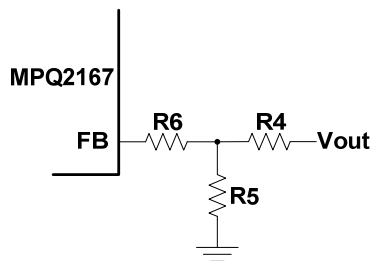

Figure 3: Feedback Network
The external resistor divider connected to FB sets the output voltage (see Figure 3). The feedback resistor R1 must account for both stability and dynamic response, so it cannot be too large or too small. R1 is estimated to be 100kΩ. R2 is then given using equation (2):
The T-type feedback network is highly recommended (see Figure 3).